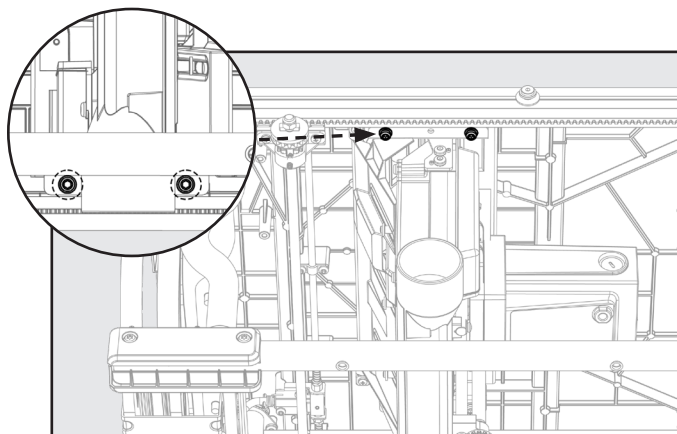

FIGURE 25
4. Using a 5mm Hex Wrench loosen the rear trunnion bolts 1/2 turn, found below the table top. See Figure 25.